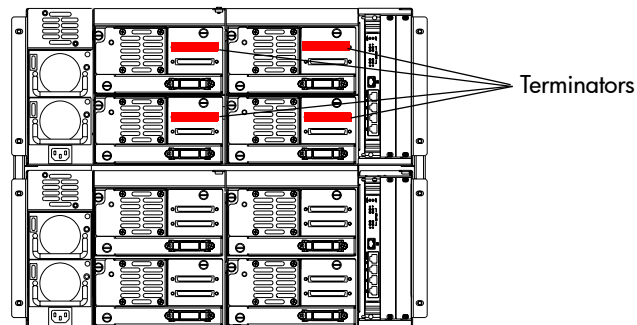

Figure 38: Attaching SCSI terminators to the Ultrium 460 or SDLT 230 drive
5. Attach a SCSI terminator (provided) to the top SCSI port on each Ultrium 460 or SDLT 230 drive (see Figure 38).